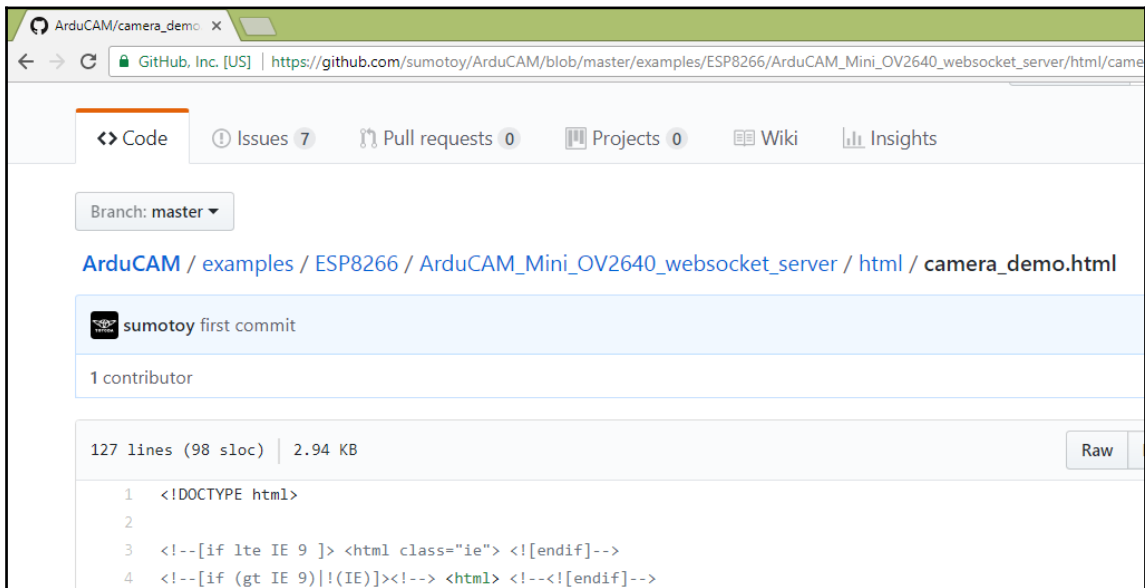

Figure 8.15: camera_demo.html
12. Then, open the `camera_demo.html` file located in your `examples\ESP8266\ArduCAM_Mini_OV2640_websocket_server\html` folder (Figure 8.15):